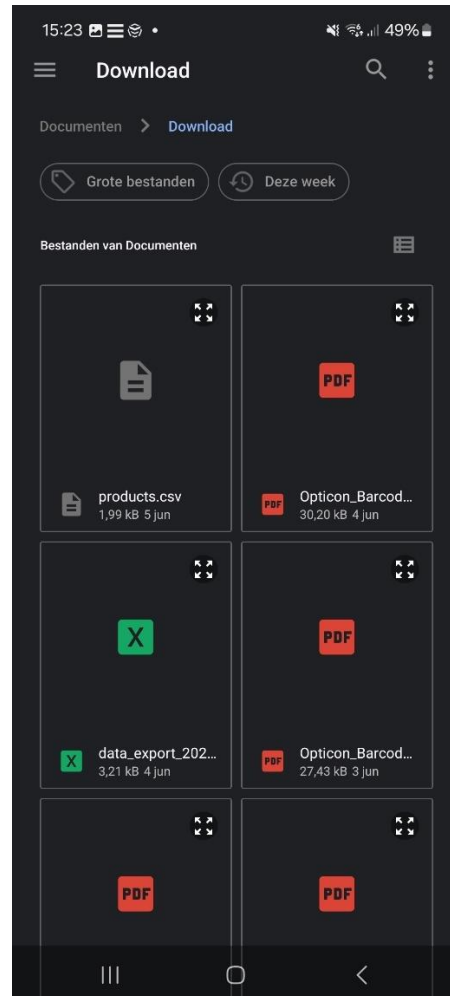

Figure 8-5: The File Explorer on the device to select the CSV file.
- In the File Explorer that opens on the device, navigate to, and select the CSV file you wish to import (see Figure 8-5). In this case I have selected the *products.csv* file.